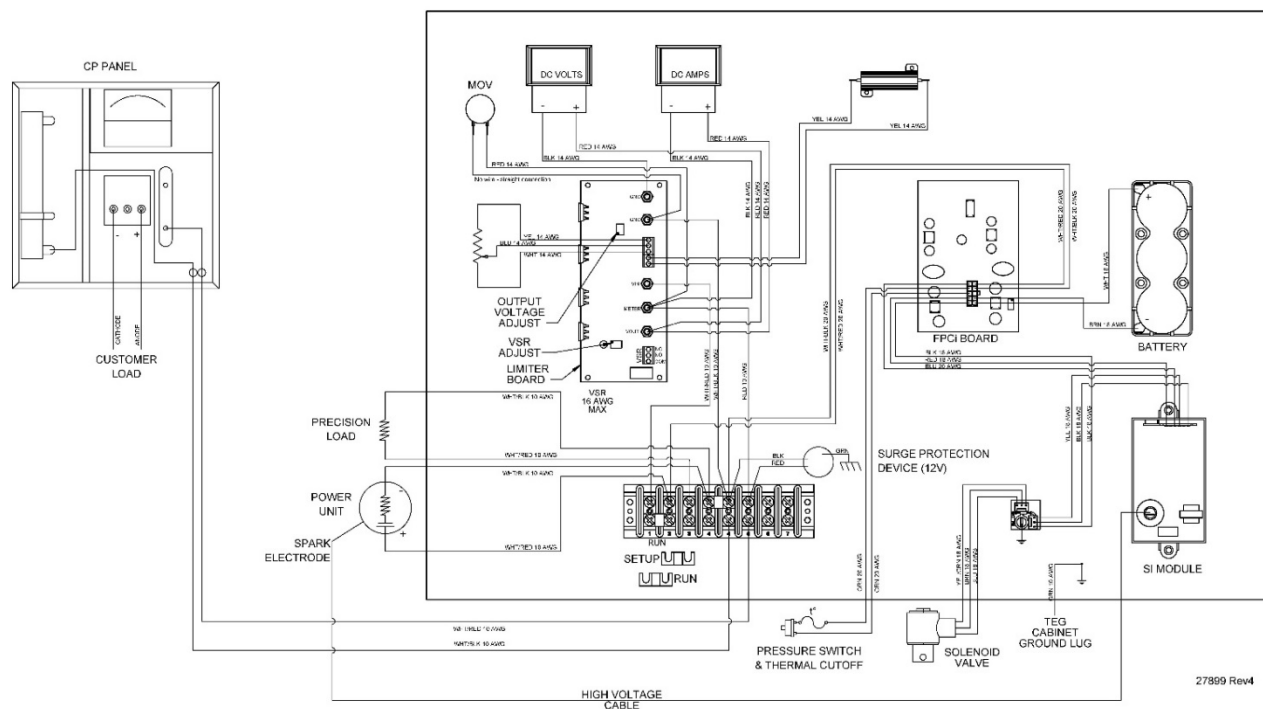
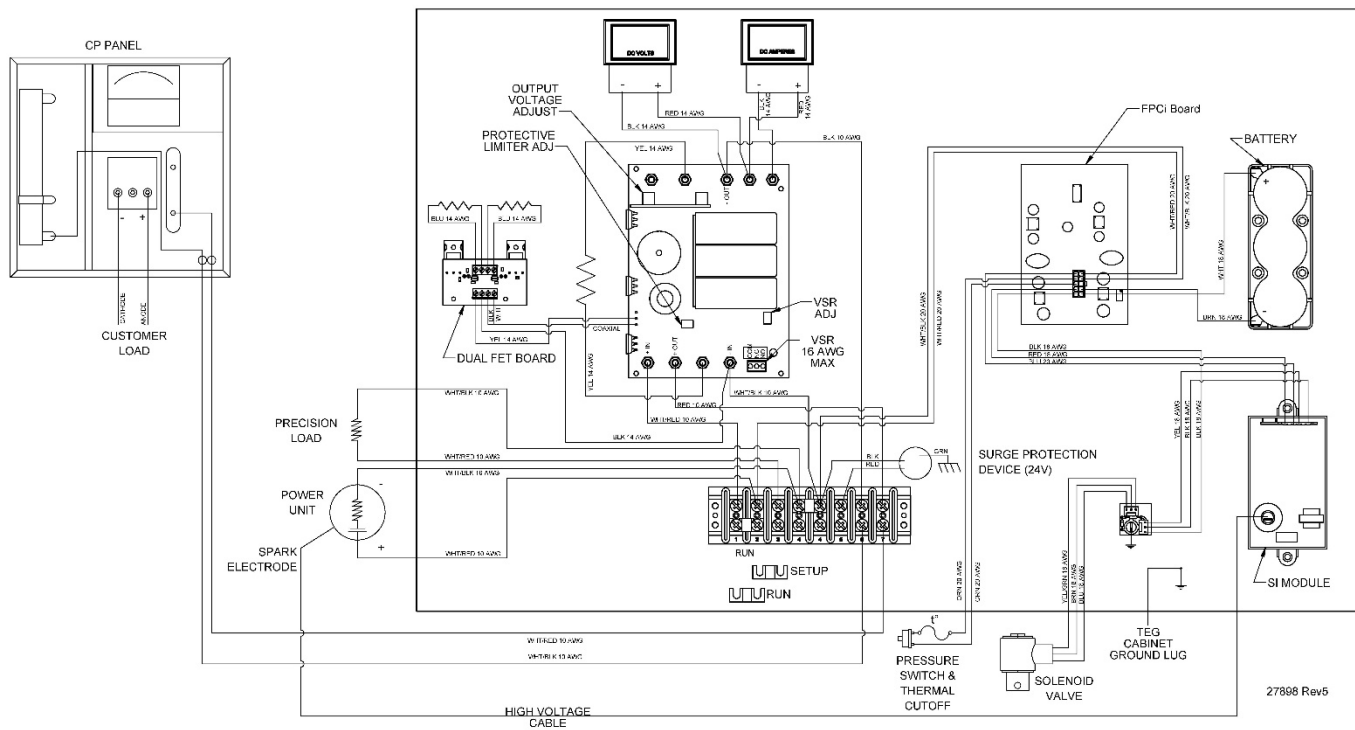

Figure 16 – CP Wiring for Model 5220-12 V, with Limiter Assembly
Figure 17 – CP Wiring for Model 5220-24 V, with L/C Assembly
1. Consult the wiring diagram (Figure 16 or Figure 17, as applicable).